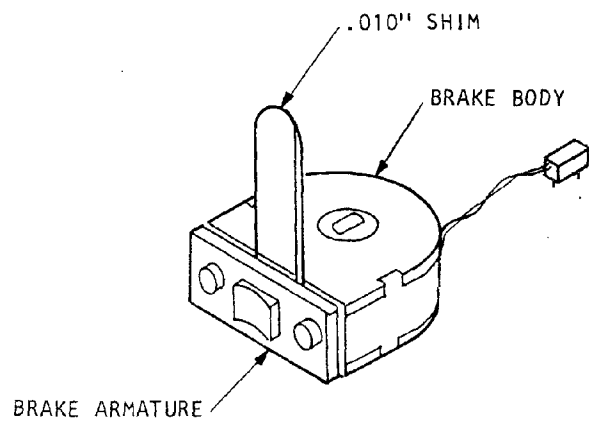

Figure 4-2. Brake Replacement Procedure
- c. Insert a 0.010-inch shim (supplied with the brake replacement kit) between the brake body and the brake armature (see Figure 4-2).